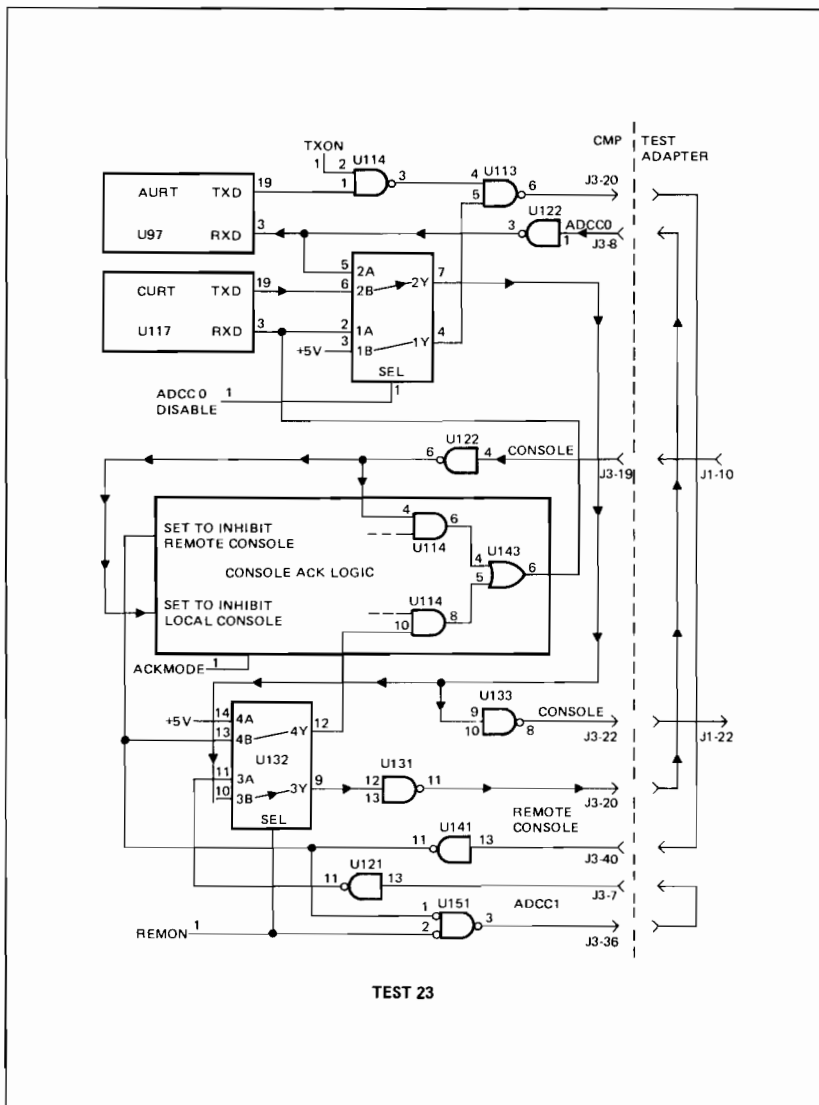

Figure 3-12. Data Comm Test Step 23
- 23 This step leaves the ACK circuitry in a state that should allow Remote Console data to be received by the CURT in the next step. (See Figure 3-12.)